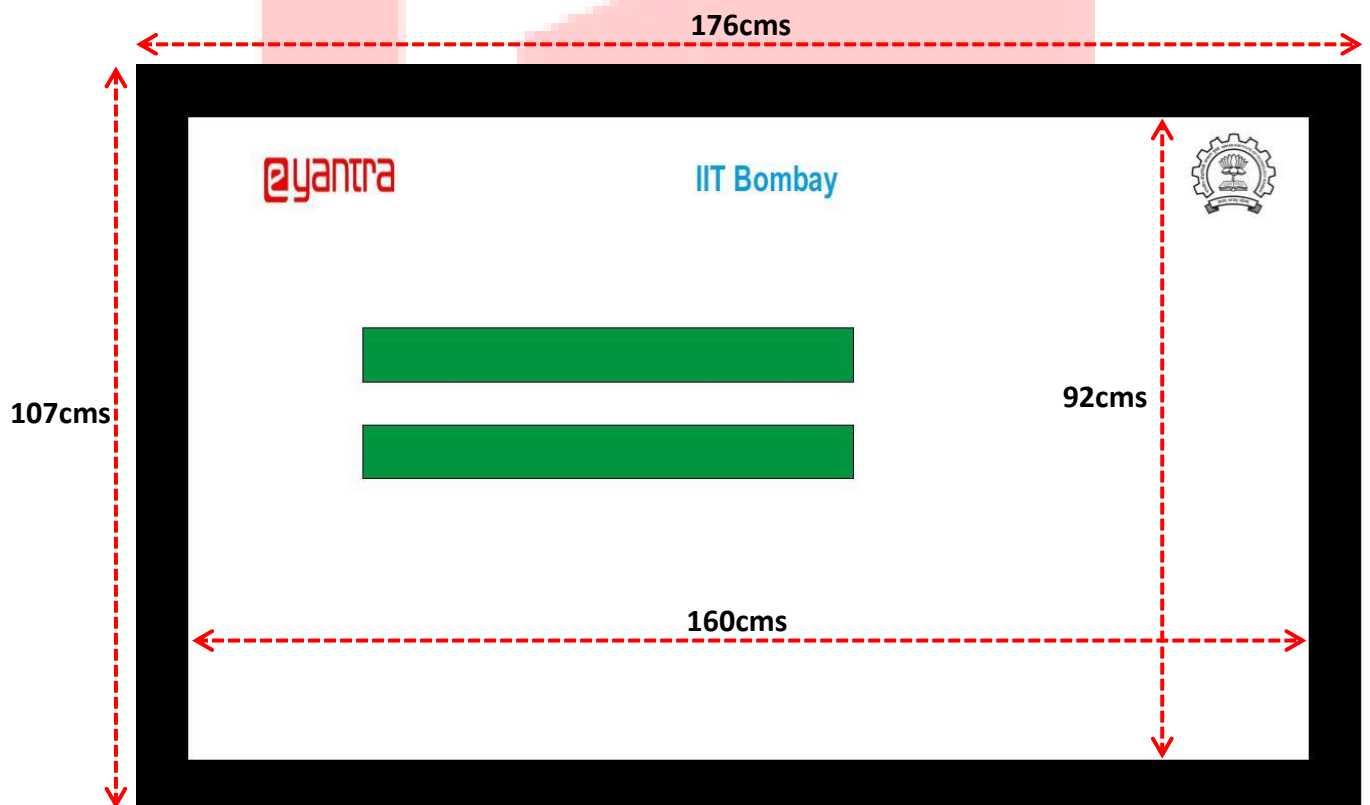

Figure 4: Base Arena
- i. **Base Arena:** is of dimensions 176cm x 107cm as shown in Figure 4.